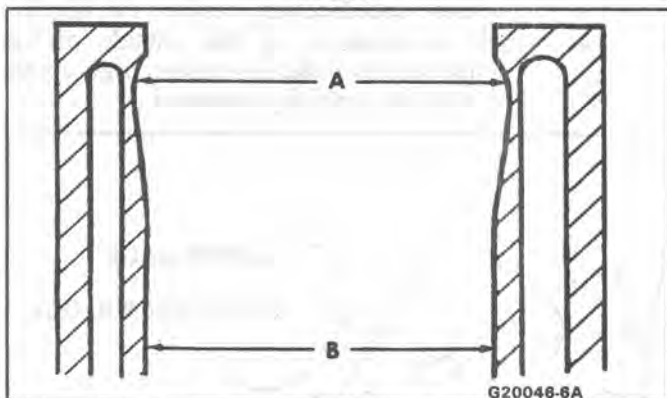

Figure 50 Cylinder Wear Pattern
- If the bore is worn beyond limits (Figure 50), it may be rebored, honed and fitted with oversize pistons. The smallest available oversize should be selected (refer to Piston Fitting).